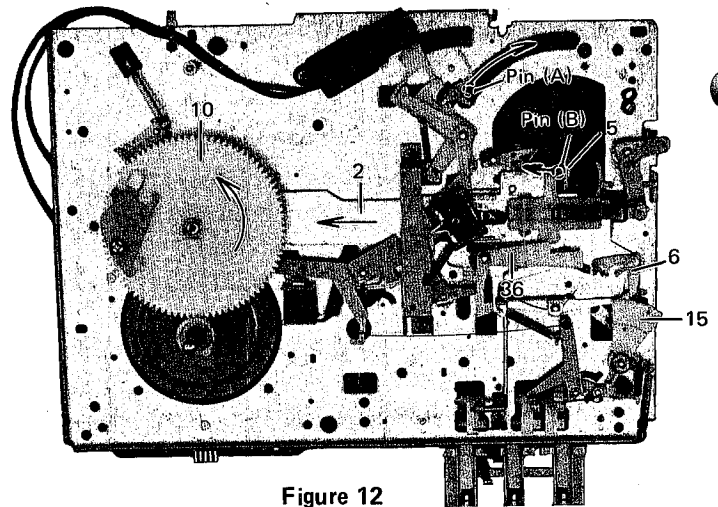

Figure 12
- (4) With the rotation of Main Gear (10), Return Lever (2) returns to left, carrying out the Pickup Arm. (Figure 12)